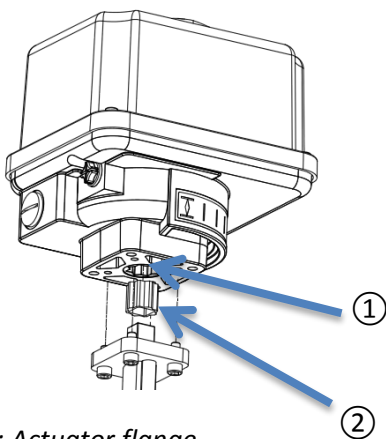

Figure 6: Actuator flange
- Remove the protection cap (Figure 6; Pos. 2) from the stop screw.
- Turn stop screw for closed position (Figure 6, Pos. 1) finger tight, then a half turn back.